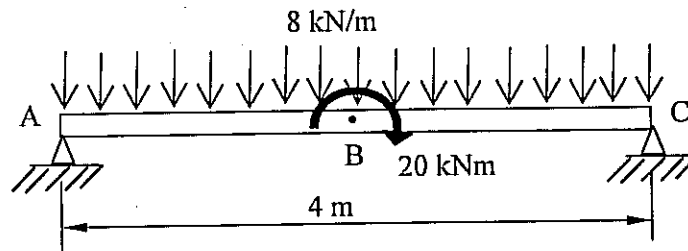

Fig.Q6
- (a) A beam of length 4 m. simply supported at its ends A and C. carries a uniformly distributed load of 8 kN/m, as shown in Fig.Q6. Draw shear force and bending moment diagrams for the beam (without the applied moment shown at B).
- (b) An additional clockwise moment of 20 kNm is introduced at the center (B) of the beam. Using the principle of superposition draw the resulting shear force and bending moment diagrams for the beam and hence show that the maximum bending moment occurs at the beam center.